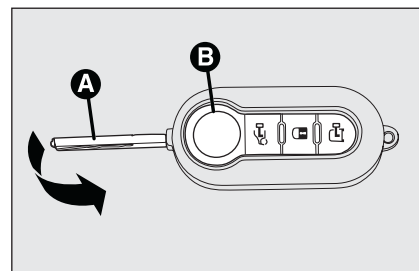
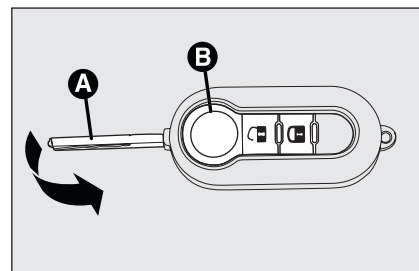
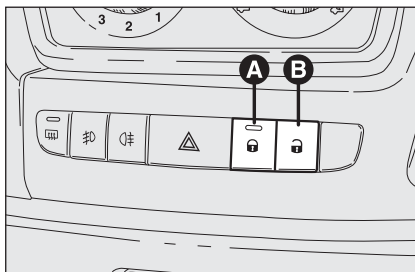

fig. 107
fig. 108
fig. 110
With the doors closed, press the button  on the remote control **fig. 107** or fit and turn clockwise the metal insert into the driver's door lock.
Door locking is only possible if all the doors are closed. Opening one or more doors by pressing the button  on the remote control **fig. 107**, will make the direction indicators and the button led **A** **fig. 110** flash quickly for about 3 seconds.
With this function active, buttons **A** and **B** **fig. 110** are disabled.
Pressing twice briefly the button  on the remote control **fig. 107** will engage the dead lock device (see paragraph "Dead lock device").
Briefly press button  **fig. 107** or  **fig. 108**, according to versions, to obtain remote door unlocking, timed ceiling light turning on, directions indicator double
Press button **A-fig. 110** to lock and press button **B** to unlock the doors. Block/release actions are carried out centrally (front and rear). When doors are locked the button led **A** is on and pressing the button **B** will obtain central unlocking of the doors and turning off of the led. When doors are unlocked, the button led is off and pressing the button will obtain central locking of the doors. Door locking is activated only if all the doors are perfectly closed.
it will not be possible to unlock the doors by pressing button **A-fig. 110**.
- ☐ locking/unlocking buttons **A-B** fig. 110;
The dead lock device is automatically activated on every door when pressing twice briefly the remote control button , fig. 107.
Device activation is indicated by 3 flashing of direction indicators and flashing of the button led **A-fig. 110**.